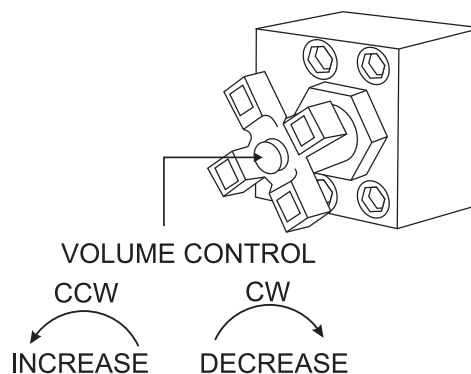

Figure 27. Volume Control
2. Use the volume control (Figure 27) to set the pump volume to approximately **10 strokes per minute**. Turning the volume control clockwise (CW) will **decrease** pump volume, and counterclockwise (CCW) will **increase** pump volume.
5. Rotate the **Volume Control Knob** (Figure 27) to the right to increase the volume to 25-30 strokes per minute. Place pump control switch in the center “OFF” position. Slowly discharge the concrete from the ready-mix truck into the hopper and completely fill it. Place pump control switch in the local “ON” pumping position. Keep the pump running continuously until concrete is discharging at the end of the delivery system. If the pumping operation suddenly stops with no concrete discharging from the hose, a blockage may have occurred. Immediately place the switch in the “OFF” position. Refer to Clearing Concrete Blockage Section.